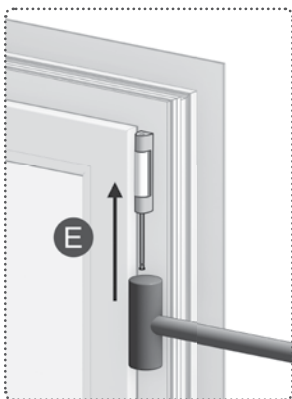

Figure 35. Pushing hinge pin until it clicks (E).
6. Push the upper hinge pin upwards until it “clicks” into place. The pin should easily click into place. [Figure 35 on page 35]